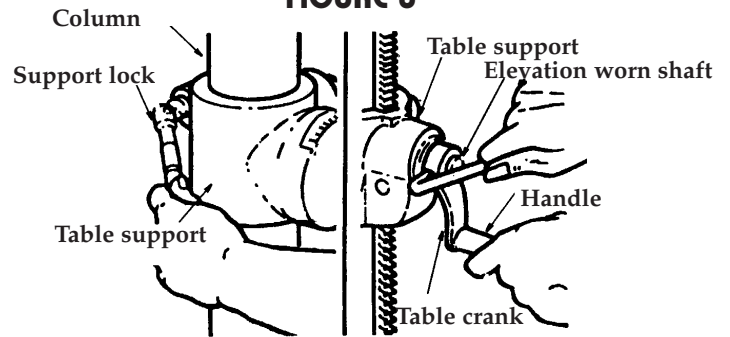

FIGURE 7
6. Install support lock from left side into the table support and tighten by hand. (Fig.7).